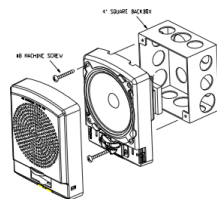

Figure 7: Four-Inch Square Backbox Mounting
7. All models can be flush mounted to a 4" square by 2-1/8" deep backbox in the wall, refer to Figure 7.